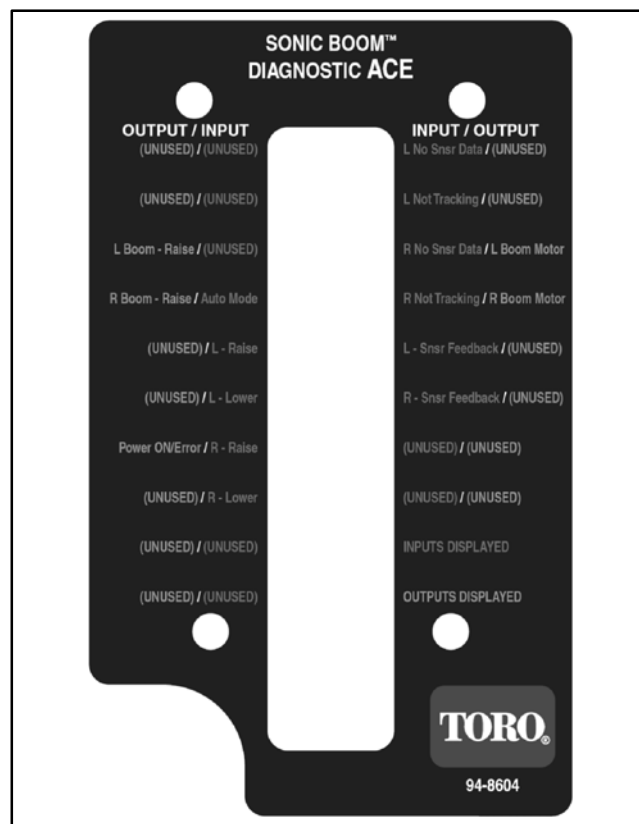

Figure 28
3. Connect the Diagnostic Display connector to the wire harness connector. Make sure correct overlay decal is positioned on the Diagnostic Display (Fig. 28).